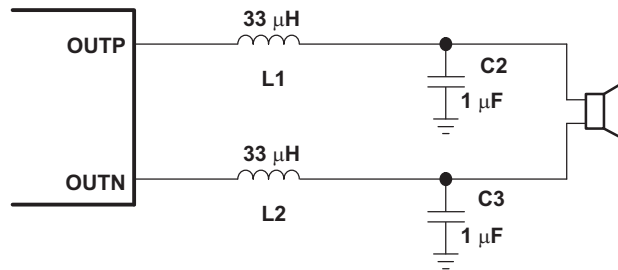
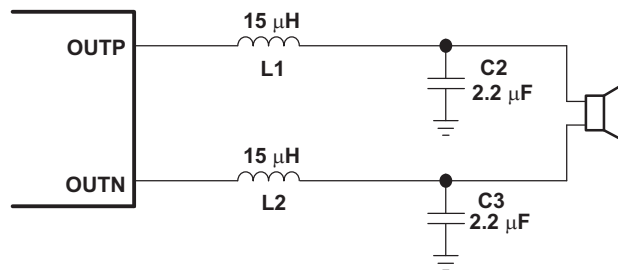

Figure 27. Typical LC Output Filter, Cutoff Frequency of 28 kHz, Speaker Impedance = 8  $\Omega$
Figure 28. Typical LC Output Filter, Cutoff Frequency of 28 kHz, Speaker Impedance = 4  $\Omega$
Using the LC filter in Figure 27, the TPA3100D2 EMI EVM passed the FCC Part 15 Class B radiated emissions with 21-inch speaker wires. Quasi-peak measurements were taken for the 4 standard test configurations, and the TPA3100D2 EVM passed with at least 17-dB margin. A plot of the peak measurement for the horizontal rear configuration is shown in Figure 30.
- Output filter—The ferrite EMI filter (Figure 29) should be placed as close to the output terminals as possible for the best EMI performance. The LC filter (Figure 27 and Figure 28) should be placed close to the outputs. The capacitors used in both the ferrite and LC filters should be grounded to power ground. If both filters are used, the LC filter should be placed first, following the outputs.